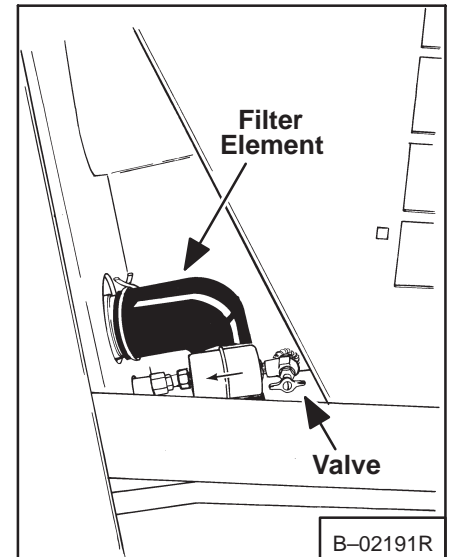

Fig. 1-15 Fuel Filter and Valve (730, 731)
1. Turn fuel valve off (Fig. 1-15).
6. Install fuel filter with arrow toward carburetor (Fig. 1-15) and be sure fittings are tight.